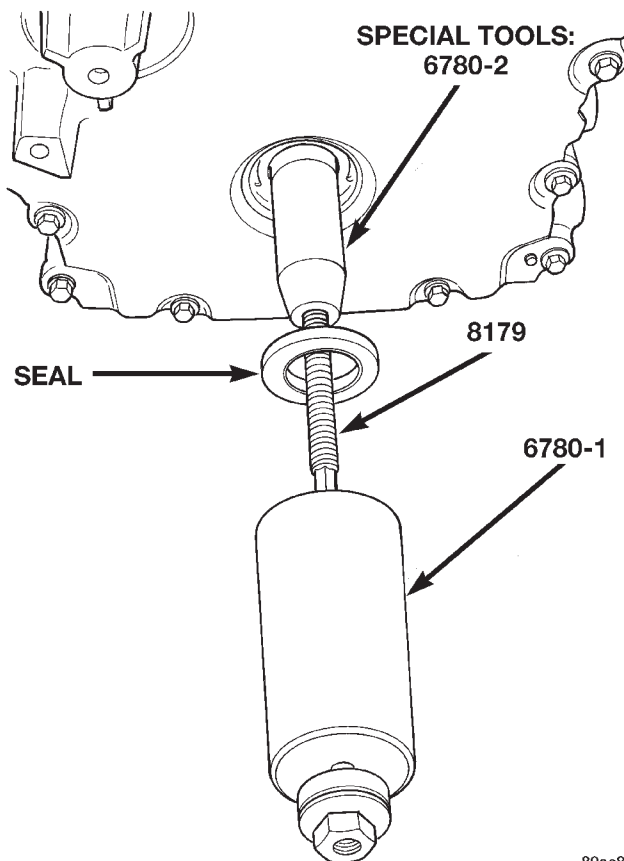

Fig. 64 Crankshaft Front Oil Seal—Installation
(1) Install new seal using Special Tools 6780-2 Sleeve, 6780-1 Installer, and 8179 Stud (Fig. 64).
(2) Install crankshaft damper.